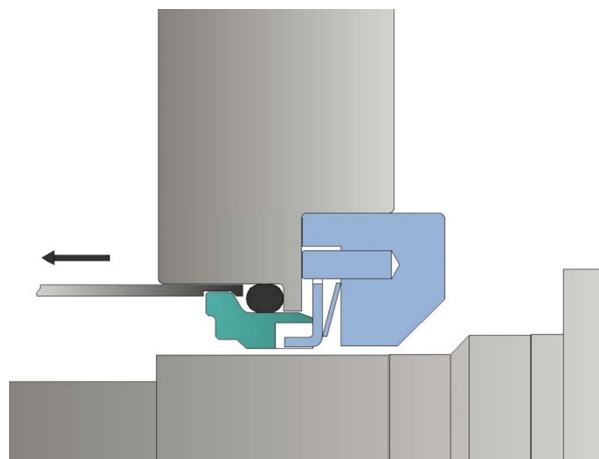
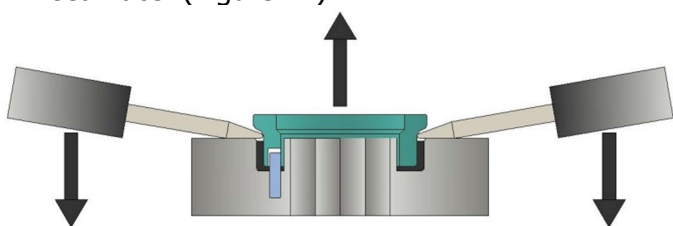

Figure 20- Seal seat removal
Figure 22 - Seal removal from rotor
- Carefully remove the static seal seats (80) from their bores in the rotor case (51). This is done by using the special seal removal tool (182) supplied with the pump. Carefully insert the seal removal tool between the outside diameter of the static seal seat and the bore in the rotor case. (Figure 20)
- Push back the O-ring with the end of the tool and rotate the tool by 90 degrees, until the hooked end locks in position behind the seal seat. (Figure 20 & 24)
- The joint ring (83) may come out with the seal face. If not, then remove it from the rotor case bore and keep it together with the seal face.
- Only remove the rotary seal seat (80) from the back of the rotor (56) if you intend to fit a new seal or L cup rubber (83). Gently prise out the seat from the rotor using two soft levers to avoid scratching rotor and damaging seal face. (Figure 22).